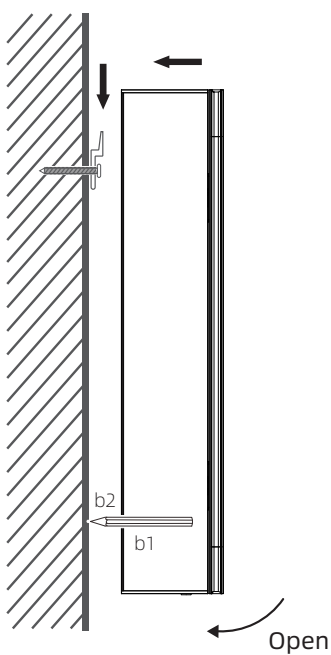

Fig. 3
- Attach the mirror cabinet to the bar as shown in Fig. 3, open the cabinet door, and mark on the wall (b2) with a pencil through the backplate hole (b1).
- Repeat the operation as shown in Fig. 3 and mount the mirror cabinet to the bar, and then tighten the screws on the backplate (Fig. 5).